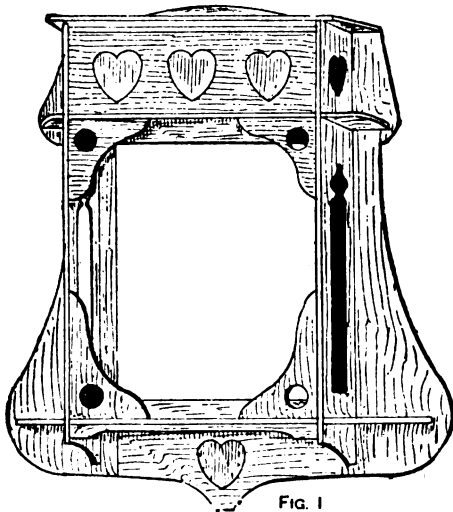

FIG. 1
**Chess Table with Secret Spring Drawer.**—Fig. 1 illustrates a chess or draughts table with secret spring drawer, which can easily be made; only the construction of the trunk requires a few words of explanation. This trunk has a deep hole into which the secret square drawer, of about 3-in. side, is dropped; the four middle squares of the chess board form the top exactly (see Fig. 2), and must fit into place accurately to hide the presence of the drawer. It will be noticed that the drawer should be shorter than the portion of the body into which it fits by 2 in. This is for the spring, which consists of a few turns of an ordinary upholsterer's chair spring, standing 3 in. high (as in Fig. 3), and which can be dropped into its place without any fastening. The two middle knobs A (Fig. 1) on each side of the trunk have pins on them which go through the
**Wooden Wall Brackets.**—Figs. 1 and 2 illustrate two easily made brackets, for which common white wood  $\frac{1}{2}$  in. thick, finished to about  $\frac{1}{4}$  in., may be used. The brackets may be stained green and given one or two coats of shellac, but a thick varnish should not be used, as the appearance is better with little or no polish. The bracket illustrated by Fig. 1 is  $9\frac{1}{4}$  in. by 12 in. in the main opening, and 5 in. deep; the other proportions can be obtained from the sketch. Commence by cutting out the two curved pieces which form the back. This can be done with bow saw, gouge, and spokeshave, or with the fret saw. Then cut out the two sides. The larger holes should be removed by the fret or bow saw and finished off. Erect these sides in position on the back pieces about 1 in. from the straight edge and nail them on. Cut out the four small side brackets, rounding them in front. Put a little glue on the edges and then nail them in position, both to the side and back; the two wings which unite the back and sides will then be complete, and the three shelves will join them together. Cut out four pieces of wood, each  $3\frac{1}{2}$  in. long and  $\frac{1}{2}$  in. square; glue these in the corners, behind the little curved pieces with the round holes in them, in such a manner that the shelves are fixed in place. Next cut out pieces to form the top and bottom part of the back. The lower piece has a heart cut through it, and the upper one a curved top. Make these fit exactly between the sides, projecting 1 in. into the opening, and nail them to the back